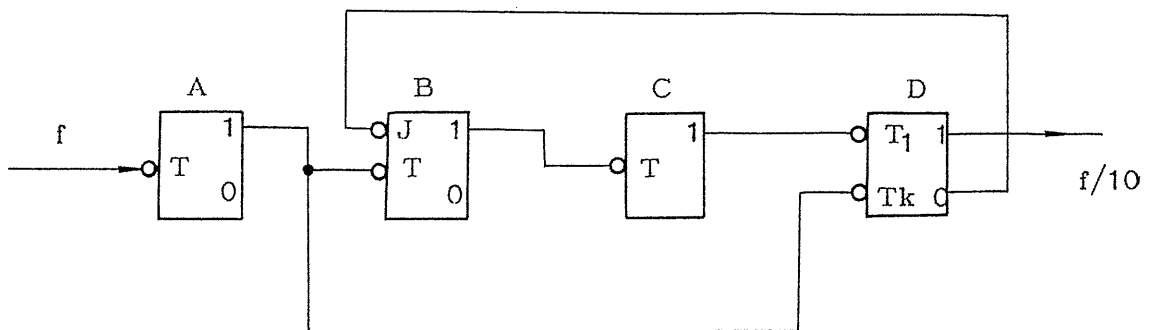

Fig. 4-8
The 8-4-2-1 code counter has four F. F. stages connected in cascade, as shown in Fig. 4-8, to compose a decimal counter through feedback from FF (D) to terminal J of F. F.(B). Table 4.1 shows the output of each F. F.